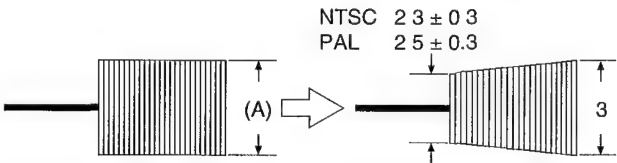
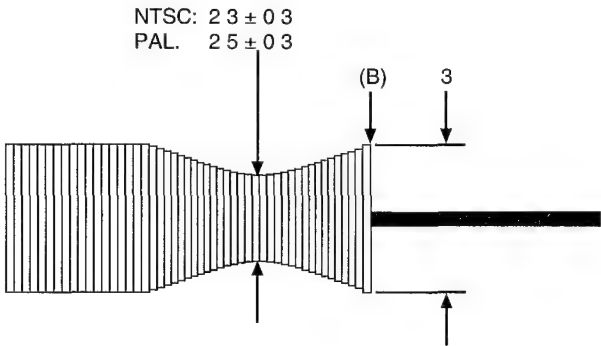

Fig. 3-4
Fig. 3-5
3-3. Supply/Take-up Guide Roller Height Adjustment (Figs. 3-4, 3-5)
<div>Adjustment procedure</div> <div>Caution: Before performing this adjustment, refer to Fig. 6-1 and modify the ATF-R jig.</div> <div>Connect the ATF-R jig before supplying power.</div> <div><div>1) Load the alignment tape which has been completely rewound, and holding down the playback button, supply a DC power source (7.2 V). Set the power switch of the camcorder to OFF at this time.</div><div>2) Connect an oscilloscope to TP3 on the ATF-R jig.</div><div>3) Synchronize the oscilloscope with TP1 (SW25/30) on the ATF-R jig.</div><div>4) Set the osilloscope to (+) slope.</div></div> <div>Supply Guide Roller (Fig. 3-4)</div> <div><div>5) Press SW2 on the ATF-R jig and hold it, then perform the following steps.</div><div>6) Adjust the height of the supply guide roller so the waveform is flat.</div><div>7) Adjust the voltage level control of the oscilloscope so that portion (A) of the waveform is set to 4 graduations.</div><div>8) Set SW1 on the ATF-R jig to ON.</div><div>9) Turn RT1 on the ATF-R jig counterclockwise so the voltage at point (C) on the ATF-R jig is $1.8 \pm 0.1V$. Then check that point (B) of the waveform is set to 3 graduation.</div><div>10) Adjust the height of the supply guide roller so minimum amplitude of the waveform is set to NTSC:2.3 ± 0.3/PAL:2.5 ± 0.3 graduations.</div></div> <div>Take-up Guide Roller (Fig. 3-5)</div> <div><div>11) Set the oscilloscope to (-) slope.</div><div>12) Adjust the voltage level control of the oscilloscope so that portion (B) of the waveform is set to 4 graduations.</div><div>13) Turn RT1 on the ATF-R jig counterclockwise so the voltage at point (C) on the ATF-R jig is $1.8 \pm 0.1V$. Then check that point (B) of the waveform is set to 3 graduation.</div><div>14) Adjust the height of the take-up guide roller so the minimum amplitude of the waveform is set to NTSC:2.5 ± 0.3/PAL:2.3 ± 0.3 graduations.</div></div> <div>Caution: After adjustment is completed, be sure to reverse the modification to ATF-R jig.</div>